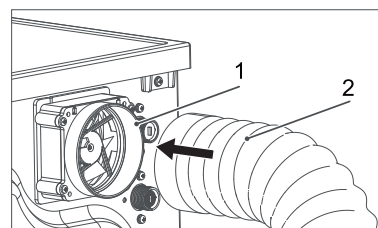

Fig. 10
To install the vent hose, attach the vent hose (2) onto the vent hose adapter (1) as shown in Fig. 10.